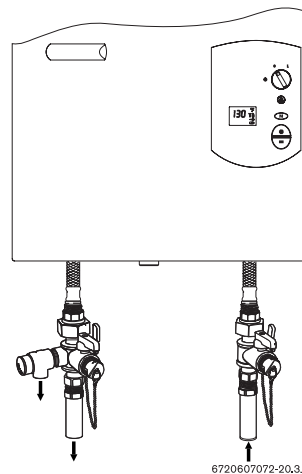

Fig. 26 Plumbing connections (with isolation valves) and pressure relief valve
- ▶ Full port shutoff valves should be installed on both the cold water supply and hot water outlet lines to facilitate servicing the heater (see Fig. 26).
A listed pressure relief valve supplied with the heater must be installed at the time of installation. No valve is to be placed between the PRV and the heater. No reducing coupling or other restriction may be installed in the discharge line. The discharge line must be a minimum of 4" above a drain and installed such that it allows complete drainage of both the PRV and the line. The location of the PRV must be readily accessible for servicing or replacement, and be mounted as close to the water heater as possible. See Fig. 26. To install the PRV, a suitable fitting connected to an extension on a "T" fitting can be sweated to the hot water line. Support all piping.